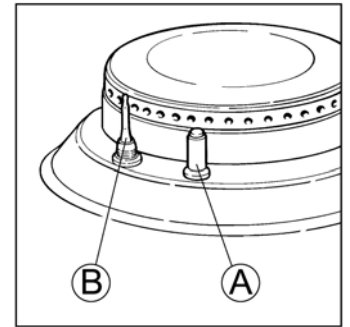

Fig. 7
- **Electric lighting of the burners with safety device** - The cook-top is equipped with electric ignition of the burners by means of spark plug "A" (Fig. 7). The spark plug operates when the push-button on the control panel is pressed. This button is marked by symbol ✨ (spark). To ignite the burner press the electric ignition push-button and, at the same time, press and turn in an anticlockwise sense the knob of the burner that is to be started to the symbol 🔥 ✨ (large flame/ignition spark). Release the electric ignition push-button once the flame has appeared and keep the gas cock pressed for about 6 - 8 sec., so as to let the safety thermocouple "B" heat-up. Release the knob and turn it to the position desired.